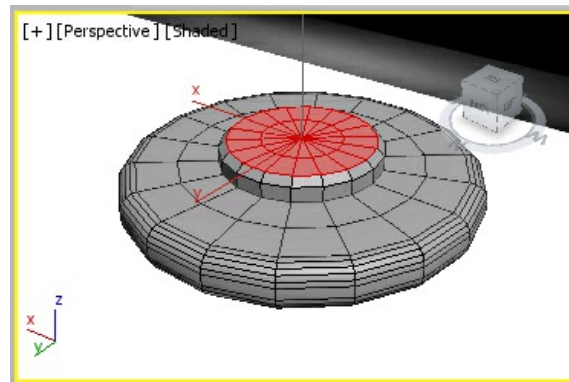
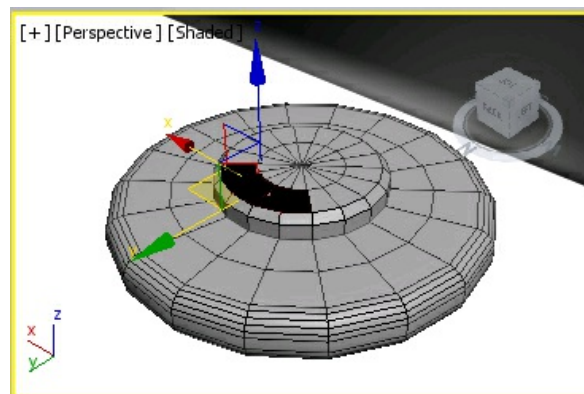

Figure 8-150 The view of the Perspective viewport after using the **Zoom** and **Orbit** tools
Figure 8-151 The polygons selected in the Perspective viewport
17. Activate the Perspective viewport and set the view using the **Zoom**, **Select and Move** and **Orbit** tools, as shown in Figure 8-150. Next by holding the ALT key, deselect the polygons except the five polygons on the back, refer to Figure 8-151.